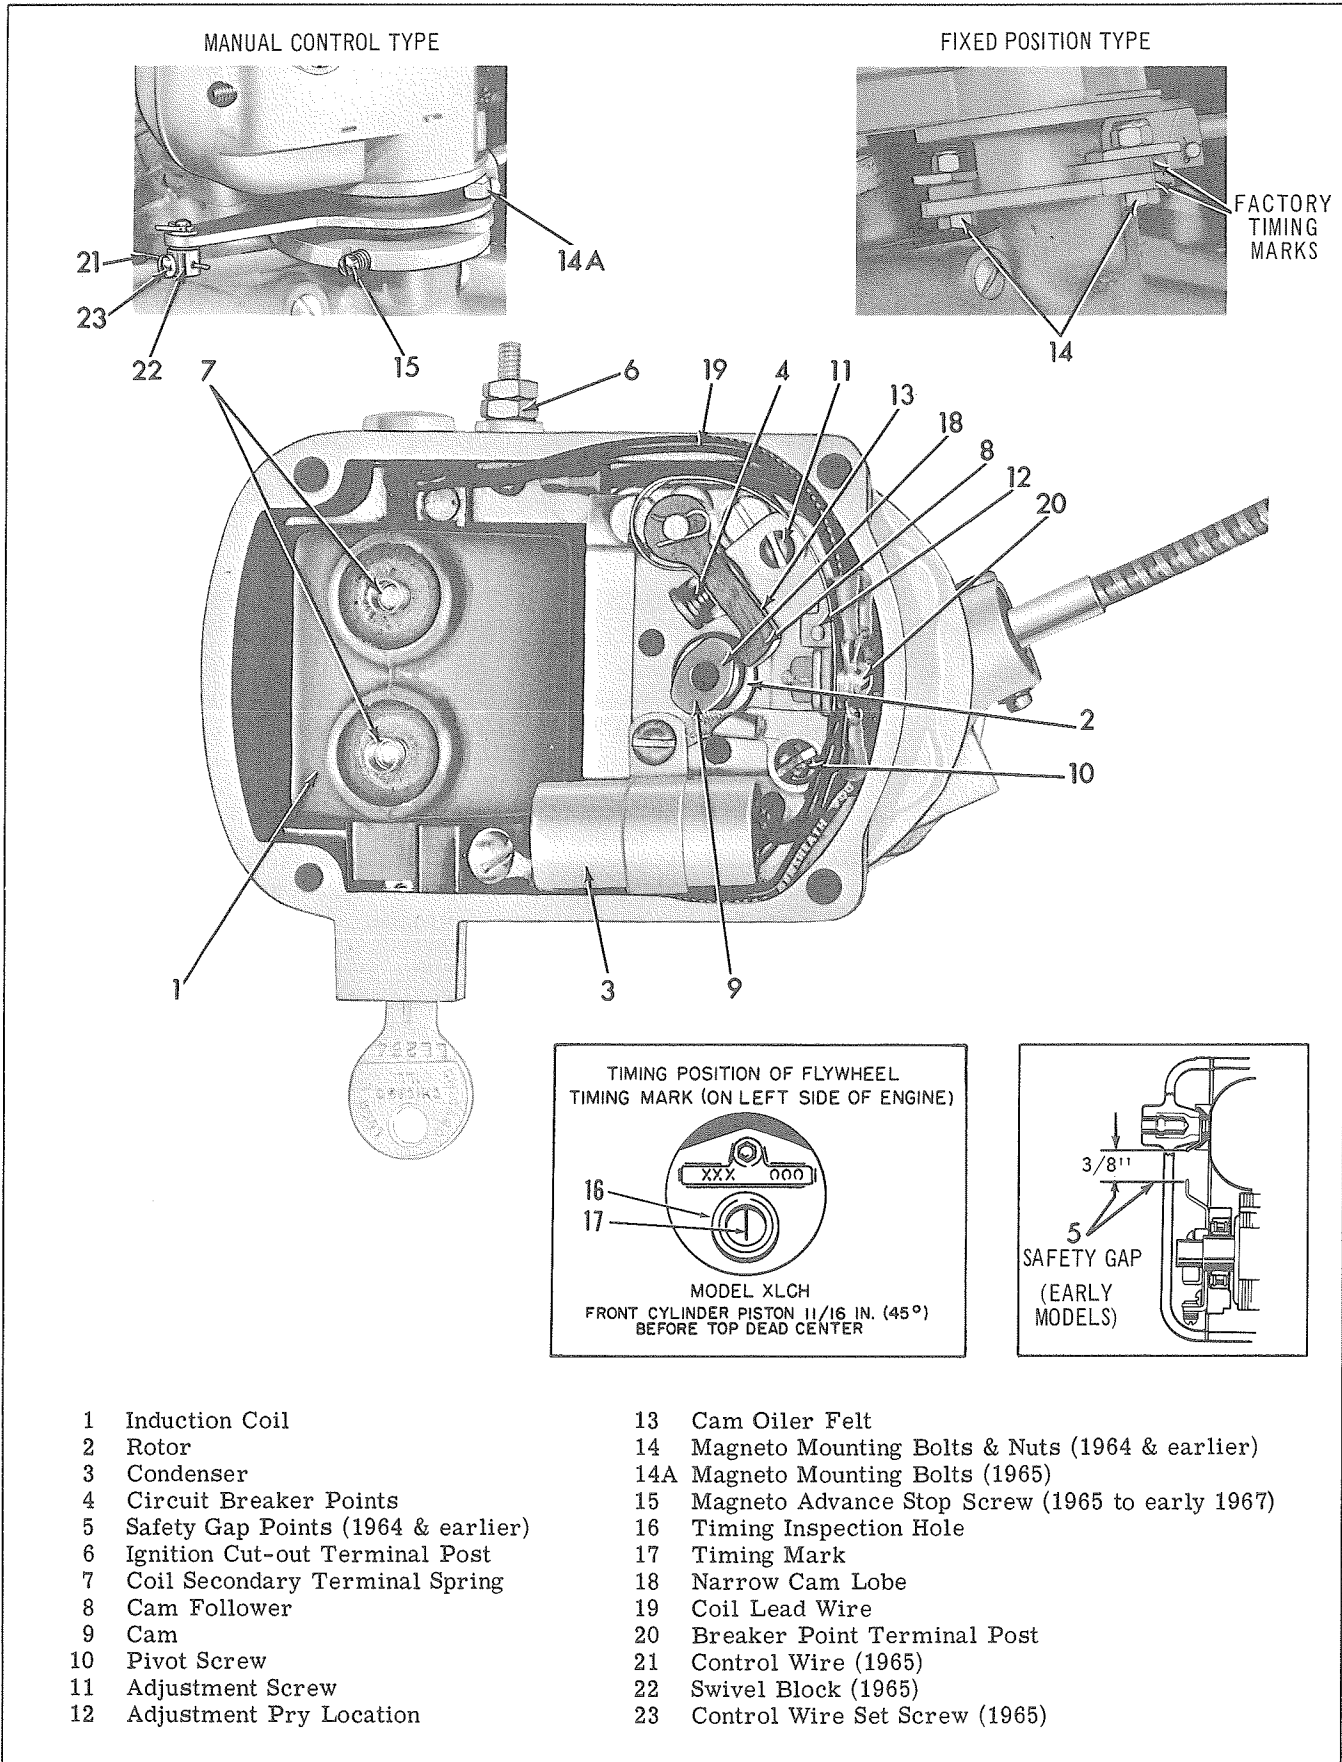

Figure 5F-6. Magneto
On early models having safety gap, be careful not to bend points (5) since they are positioned to give correct safety gap of 3/8 in. with magneto cover installed. Use a spare cover with a 1-1/2 by 1-1/4 in. opening and a 3/8 in. diameter rod to set safety gap. See figure 5F-6.
TIMING IGNITION (Fig. 5F-6)
The ignition timing should be checked in relation to piston position or timing mark on flywheel each time circuit breaker parts are replaced or at least once a year. Timing is adjusted by rotating magneto housing clockwise, or counterclockwise after loosening front and rear mounting bolt nuts (14 or 14A, Fig. 5F-6) holding magneto drive housing to adapter plate. On 1965 to early 1967 models, minor spark adjustment can be made with adjusting screw (15). Fully advanced timing setting can be retarded by turning screw clockwise or advanced by turning screw counterclockwise.